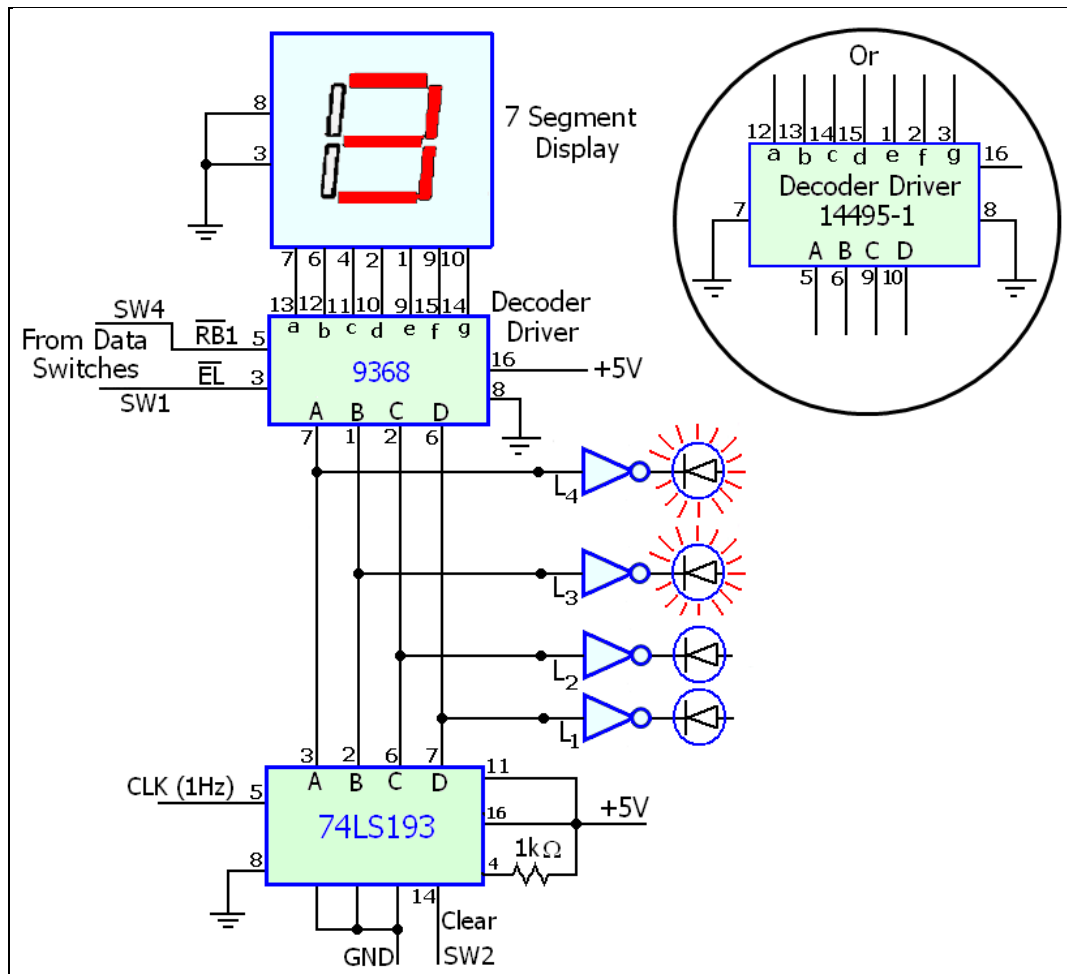

Fig. 2-3 Decoder-Driver Circuit using 74LS193-Counter for Steps 6 and 7
5. Modify your experimental circuit so that it appears, as shown in Fig. 2-3. Remove the 74LS90A-IC and in its place install the 74LS193-binary counter. You will continue to use the 1 Hz clock to step the counter. Data switch (SW2) will be used to reset the counter. Connect all unused outputs on IC74LS193 to 5V.